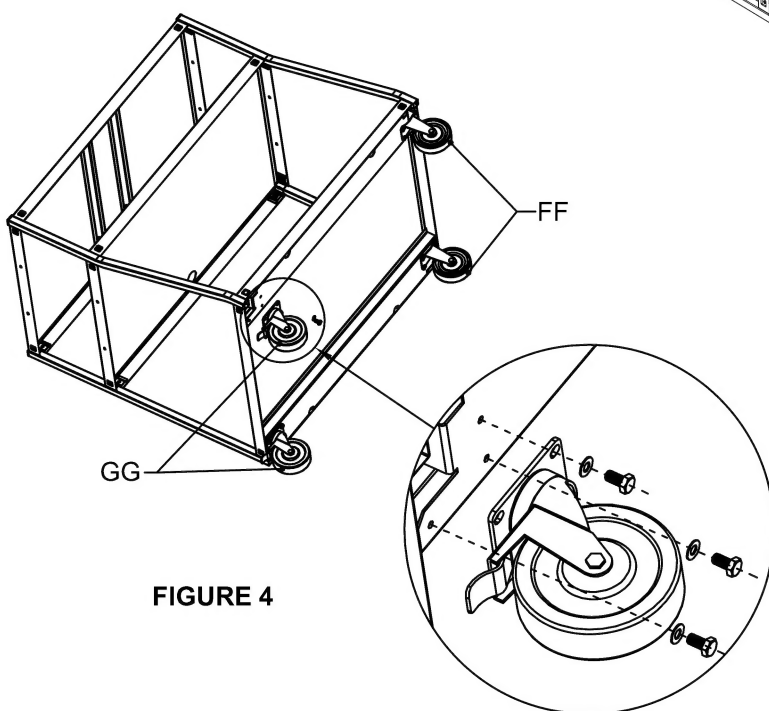

FIGURE 4
Attach each caster to the bottom shelf stiffener with three bolts (OO) and washers using a 13mm open end/box wrench (MM) as shown in **Figure 4**.